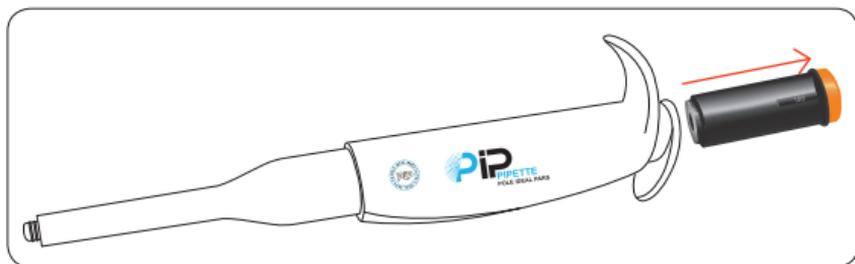

Figure 20. Disassembling the Push Button
- ▶ Before autoclaving, take out the push button. (figure 20)